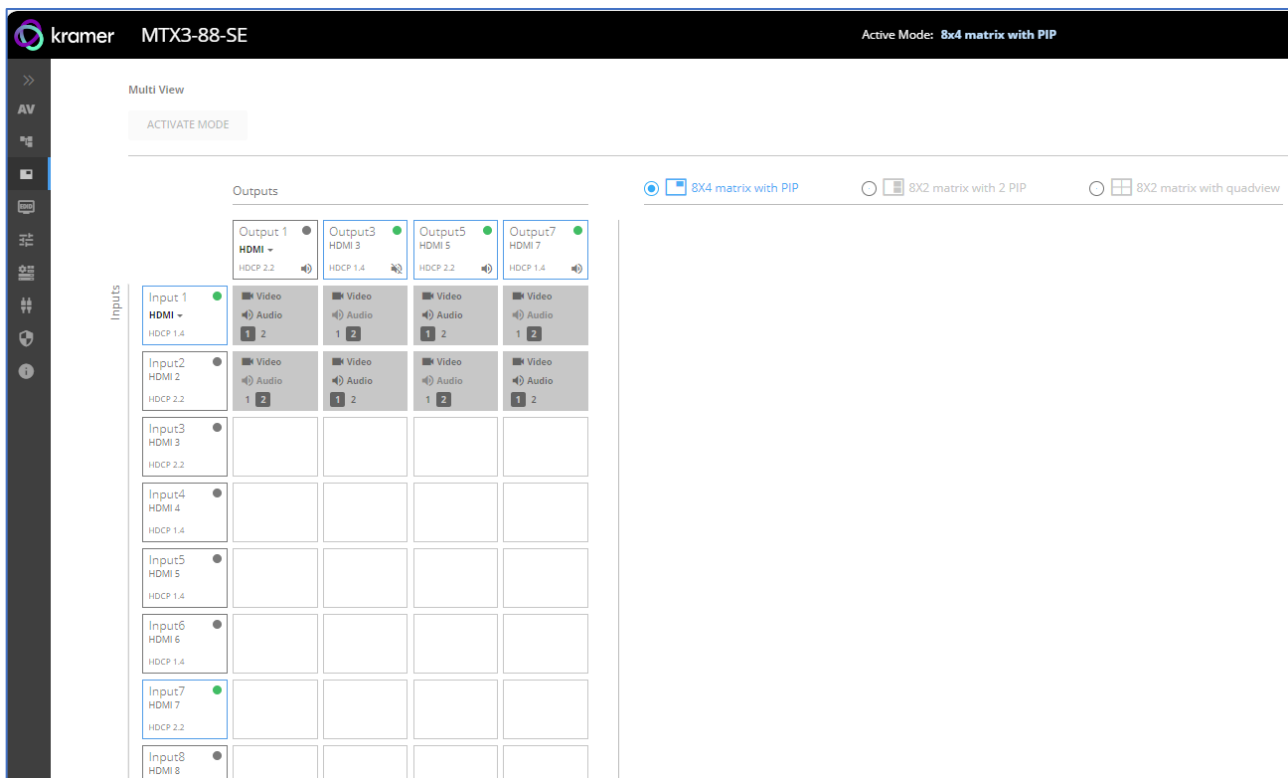

Figure 22: Multi View Operation Mode, 1 PiP Selected
1. On the Multi-view operation page (Figure 22), verify:
1. Click **Multi View** on the Navigation List. The Multi-View Settings page appears (Figure 22).